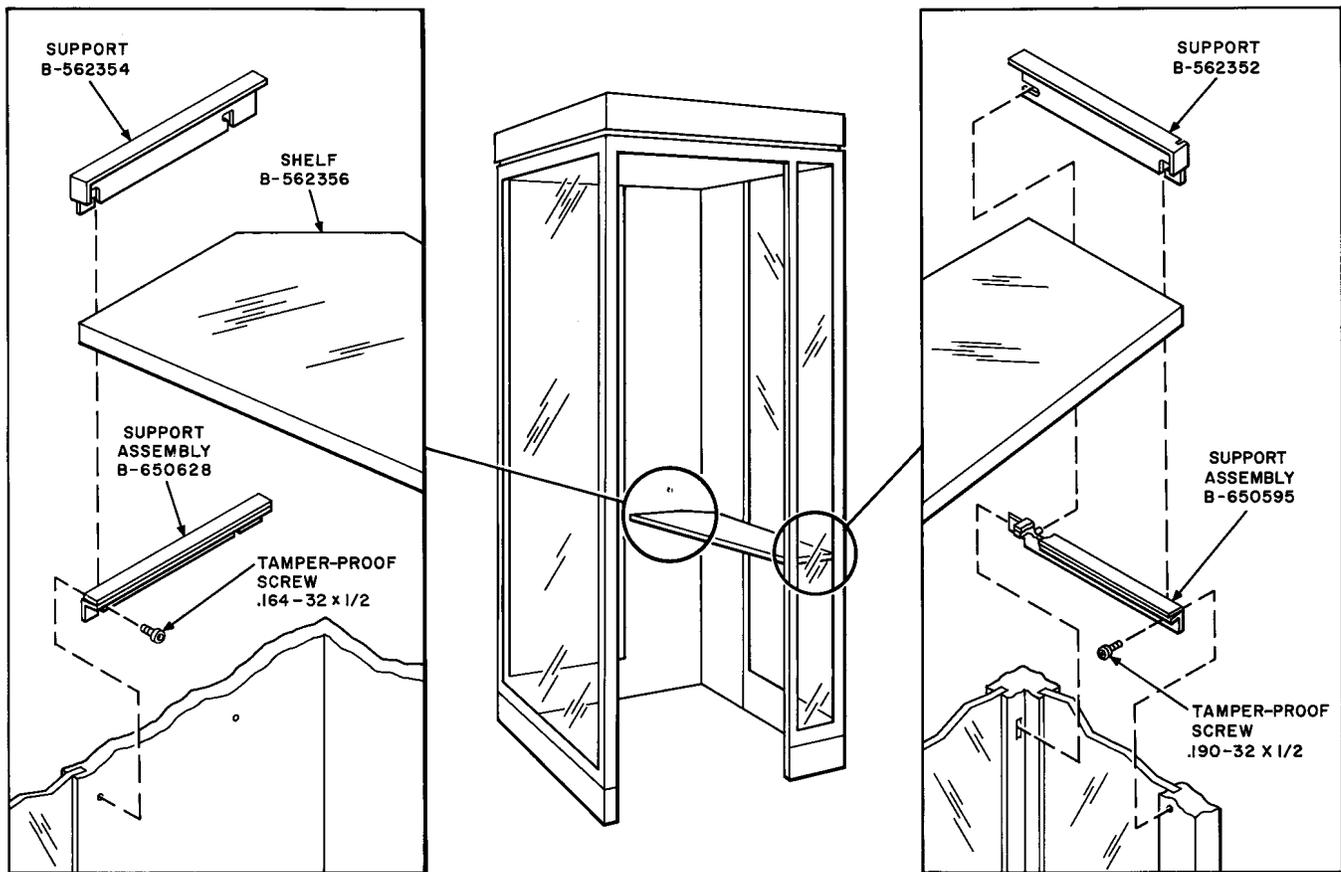

Fig. 5—Installation of Shelf Assembly
8.01 Replace broken or damaged shelves as follows (Fig. 5):